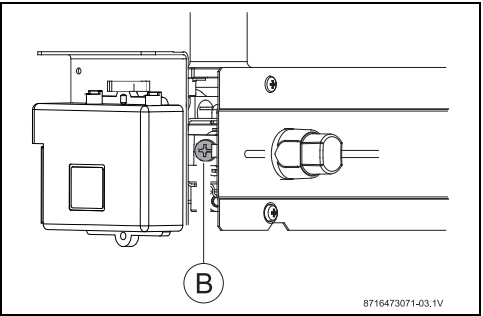

Fig. 12 Minimum gas flow adjusting screw
- ▶ Using the adjusting screw (Fig. 12, [B]) to adjust the gas pressure to the values indicated in table 9.